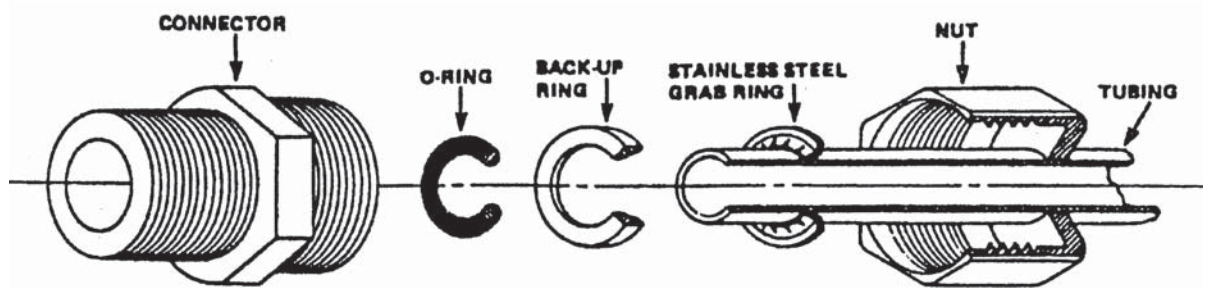

Figure 5-1. Typical Polypropylene Tubing Connector Installation
7. Secure tubing to E-pure feedwater connection. See tubing connector installation Figure 5-1.
1. Completely disassemble the fitting. Refer to Figure 5-1 to familiarize yourself with the names of the component parts.
3. Place the grab ring and back up ring in the hex nut in the order and orientation shown in Figure 5-1. Thread the nut onto the connector. DO NOT use the O - ring at this time.